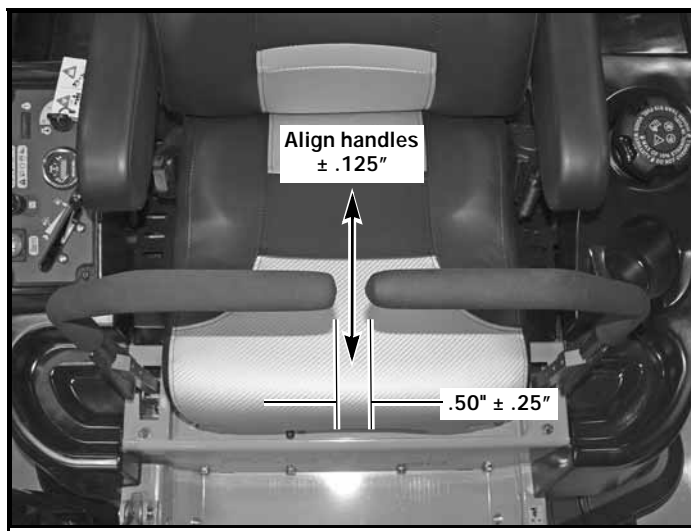

Figure 4-5
- From that point, turn the steering rod back again $\frac{1}{2}$ turn. This ensures that the steering rod is adjusted so that the transmission control arm is centered in the neutral band of the transmission. Figure 4-5
11. The steering control levers should be adjusted so that they align within $\pm .125"$ of each other when in the neutral position. Figure 4-5
NOTE: The space between the ends of steering control levers should be $.50" \pm .25"$. Figure 4-5